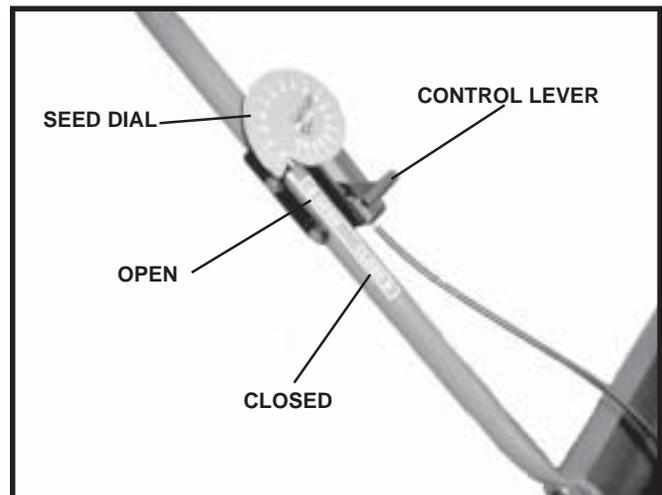

FIGURE 6
16. Slide wheel on and apply two (2) retaining rings.
19. Apply ON/OFF decal to the handle. See Figure 6.